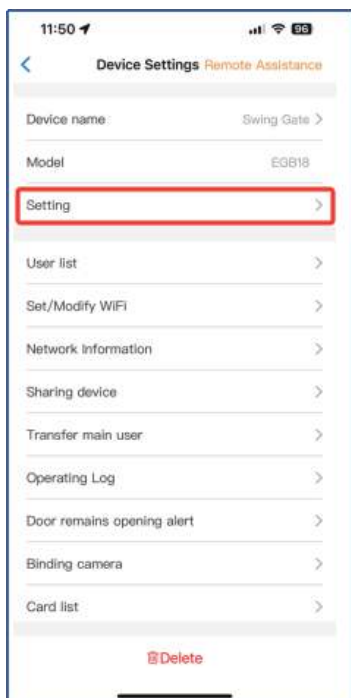

Fig 11
Step 1. Select the device, press the “⚙️” on the top right corner. Click the “ Setting ”. (Fig 11)